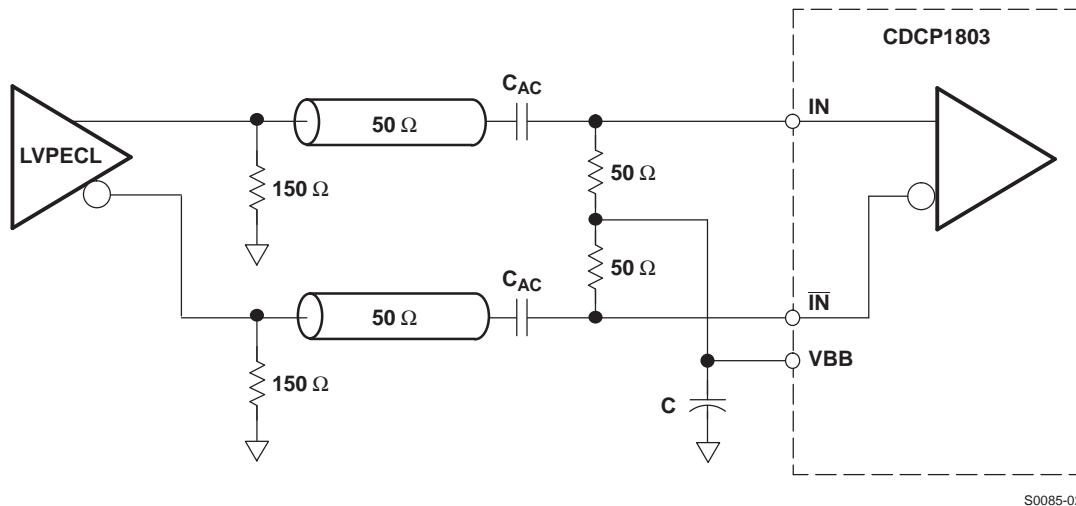

Figure 9. Recommended AC-Coupling LVPECL Receiver Input Termination
For optimized noise performance, it is recommended to properly terminate the PCB trace (transmission line). If a differential signal drives the CDCP1803, then a 100-Ω termination resistor is recommended to be placed as close as possible across the input terminals. An even better approach is to install 2 × 50-Ω resistors, with the center tap connected to a capacitor (C) to terminate odd-mode noise and make up for transmission line mismatches. The VBB output can also be connected to the center tap to bias the input signal to ($V_{DD} - 1.3$ V) (see Figure 9).